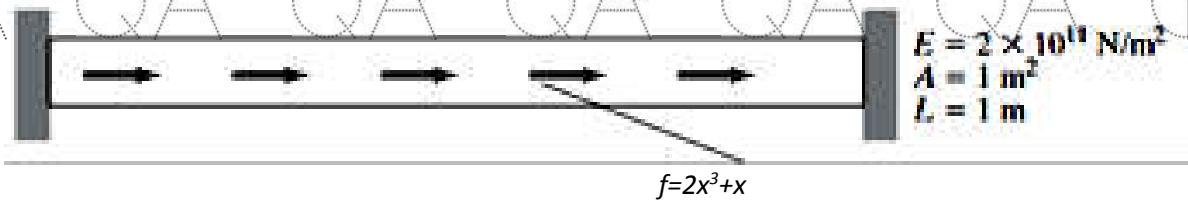

figure 2
b) A rod fixed at its ends is subjected to a varying body force as shown in figure 2. Use the Rayleigh–Ritz method with an assumed displacement field $u = a_0 + a_1x + a_2x^2$ to determine displacement $u(x)$ and stress $\sigma(x)$. [5+5]